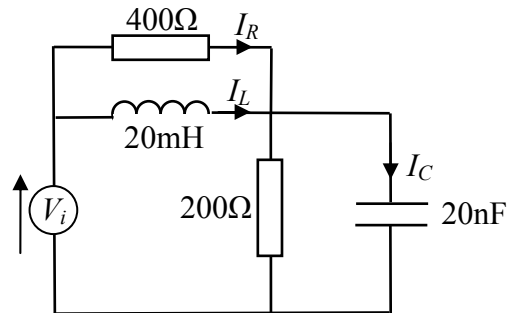

Figure 3.1
- (ii) Using the impedance given in part b.(i) above, derive an expression for the angular resonant frequency, ω_r , of the circuit. (5)
- a. The circuit of Figure 3.1 is driven by a step waveform, V_i , that is -10V for all $t < 0$ and $+20\text{V}$ for all $t > 0$. Work out I_R , I_L and I_C for all $t = 0^-$ and all $t = 0^+$ (i.e. immediately before and immediately after the step occurs).